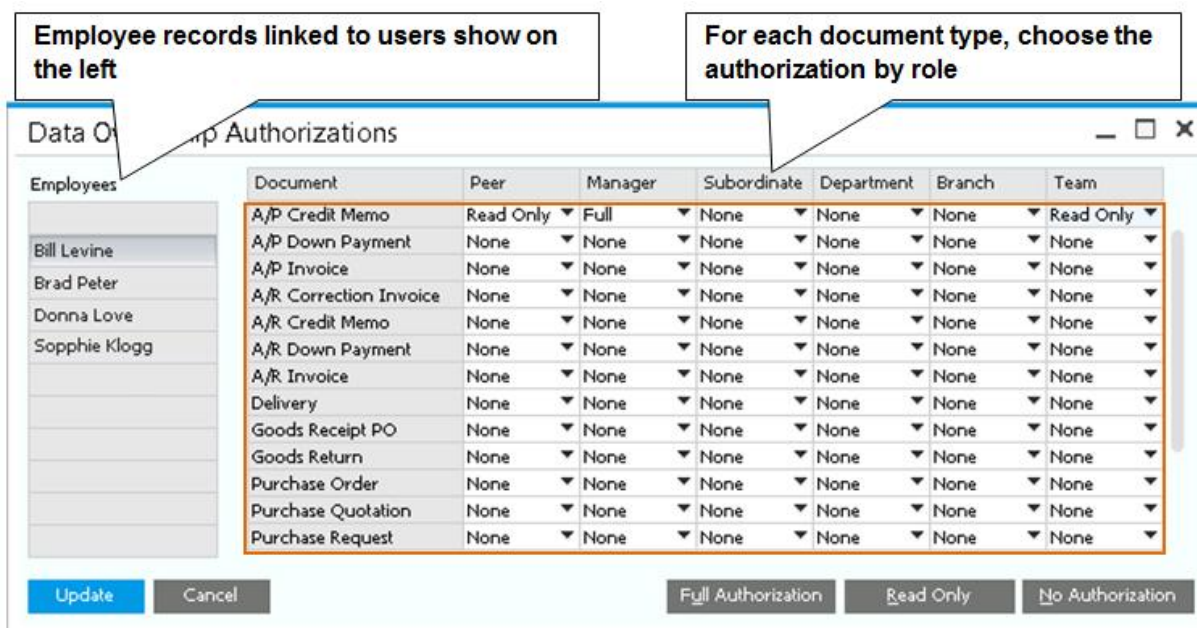

Figure 10-4: Define Data Ownership Authorizations
5. Finally, you need to define the relationship between employees, go to Administration → System Initialization → Authorizations → Data Ownership Authorizations. See Figure 10-4 for setting up data ownership authorizations.